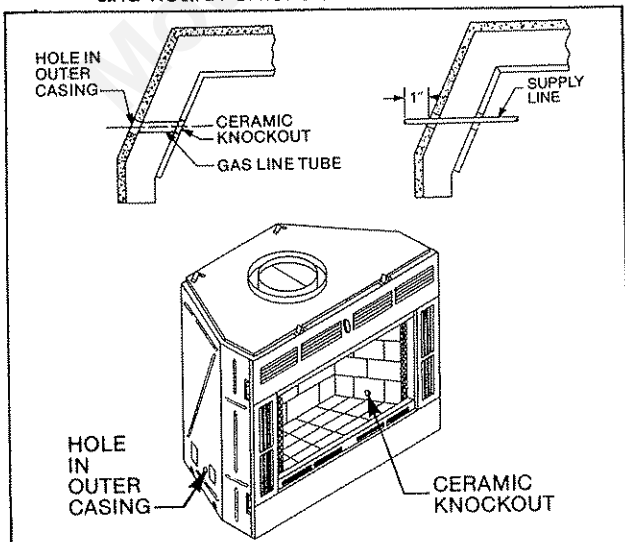

Fig. 25. Install iron pipe gas line through provided hole in both sides of fireplace.
Locate the gas line hole in the outer casing of the fireplace and remove the insulation from the gas line tube. Refer to Figure 25.
NOTE: The gas pipe should not come in contact with any wood structures until it has reached a point at least one (1) inch away from the fireplace side. See Figure 25 for installation clarification.